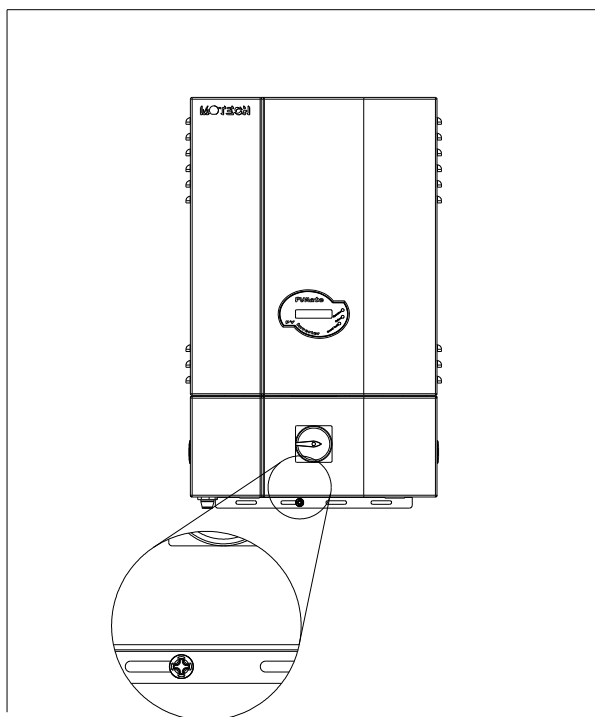

Fig 2.2.4 Hook the Inverter on the mounting bracket and then fasten the screw
3. Once the mounting bracket is attached to the wall, the inverter can be located and fastened to the mounting bracket. Slide the inverter over the mounting bracket flanges and down carefully to lock it in place. Attach the screw through the hole as shown in figure 2.2.4 below. Used to fasten both inverter and the wiring box together to the mounting bracket.